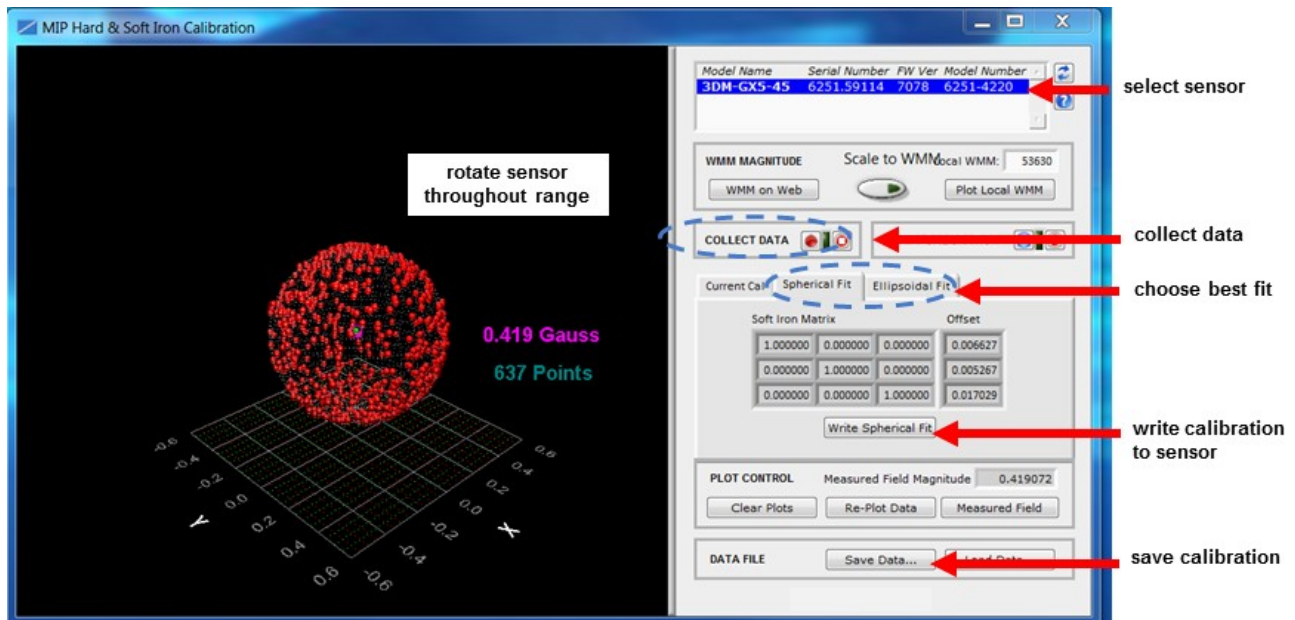

Figure 27. Collect Calibration Data
- 6 Click the Spherical Fit or Ellipsoid Fit button, depending on the application (*Figure 27 - Collect Calibration Data* ). Spherical Fit is often best for applications with calibration rotations restricted to a 2D plane: for example, a ground vehicle or a boat, because it will not likely not be rotated on all three axis. Ellipsoid Fit is generally a better correction when soft iron effects are present but only if enough data points can be collected in all